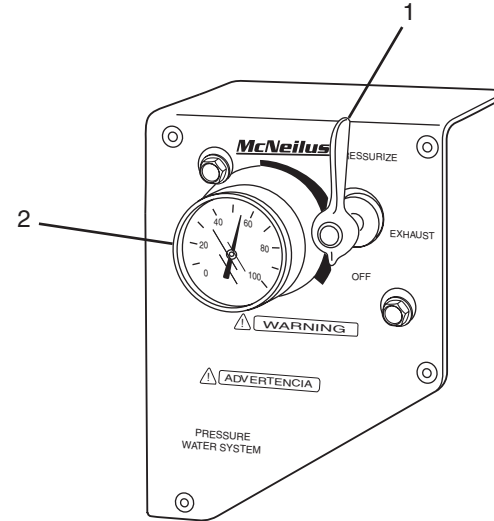

Figure 36
2. Turn the air pressure control valve to the PRESSURIZE position (Figure 36, Item 1). The water tank will be pressurized from the chassis air system.
3. The air gauge (Figure 36, Item 2) will read the pressure in the water tank. The pressure must not exceed 55 psi.